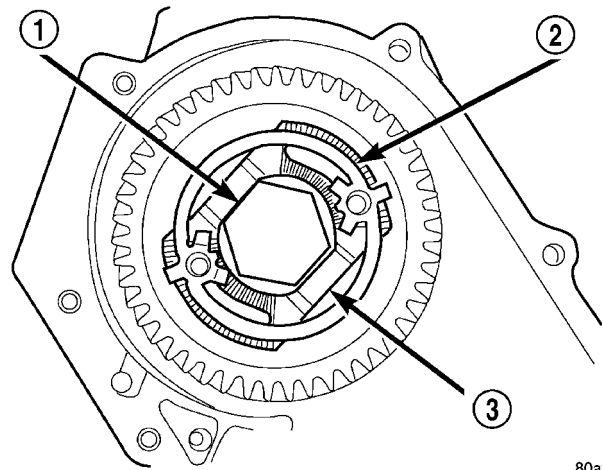

Fig. 64 Remove Stirrup Strap
(49) Remove stirrup and strap (Fig. 64).